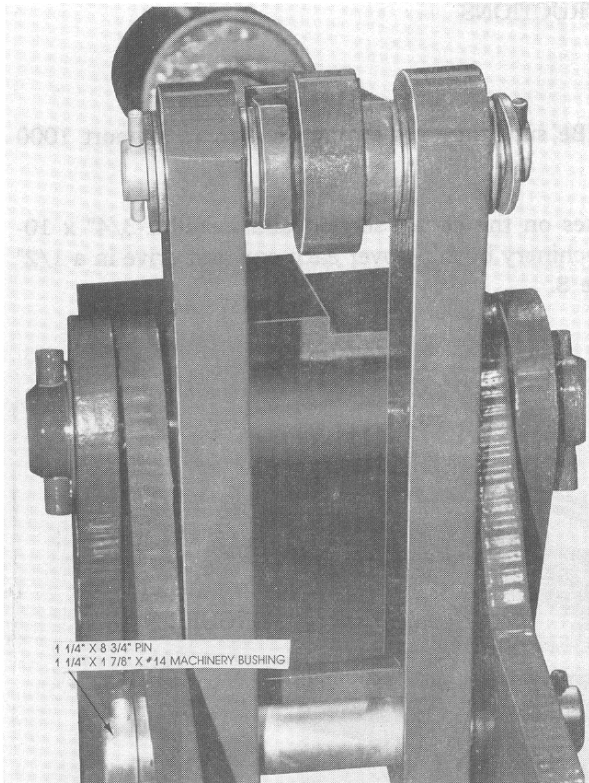

FIGURE 9
4. Install two lift links between the hinges on each wing, using 1-1/4" x 8-3/4" pins. Use a 1-1/4" x 1-7/8" x #14 machinery bushing and a 5/16" x 1-3/4" roll pin on each end. See Figures 9 and 10.
5. Install wing fold cylinders. Base ends attach to center frame and rod ends to lift links and rollers. See Figures 9 and 10.